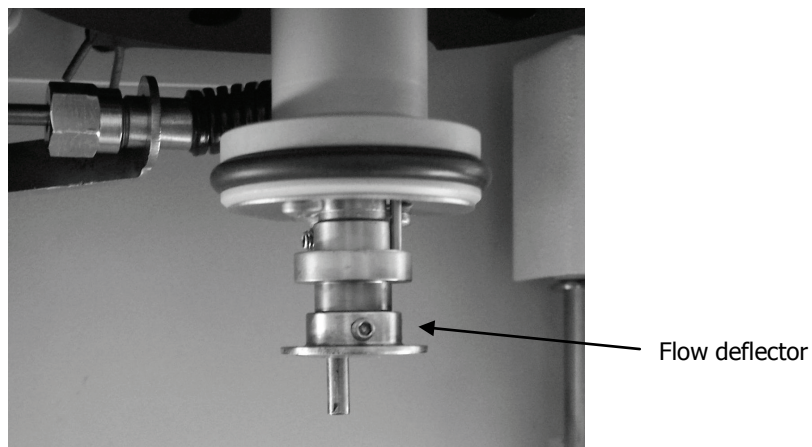

Figure 59 Flow deflector attached
15. Use the two grub screws to attach the new flow deflector (Figure 59).